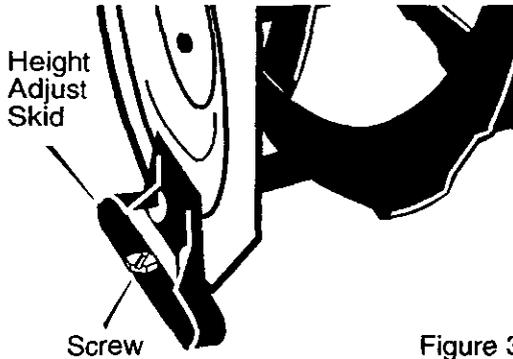

Figure 3
- For shipping purposes, the **height adjust skids** are attached to the pallet. Remove the **screw** that secures each **height adjust skid** to the pallet. See Figure 3.